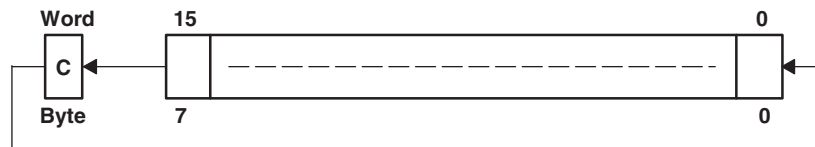

Figure 4-38. Destination Operand—Carry Left Shift
The destination operand is shifted left one position as shown in Figure 4-38. The carry bit (C) is shifted into the LSB, and the MSB is shifted into the carry bit (C).